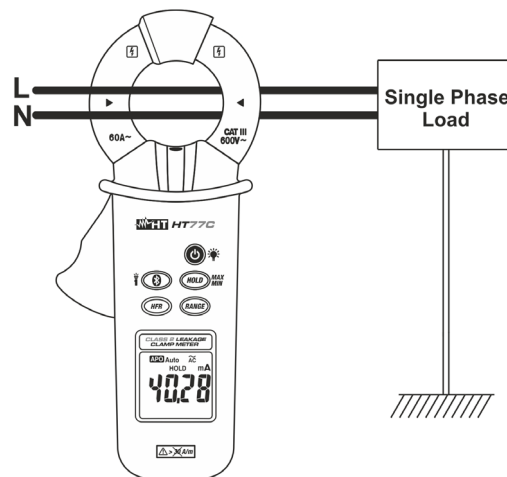
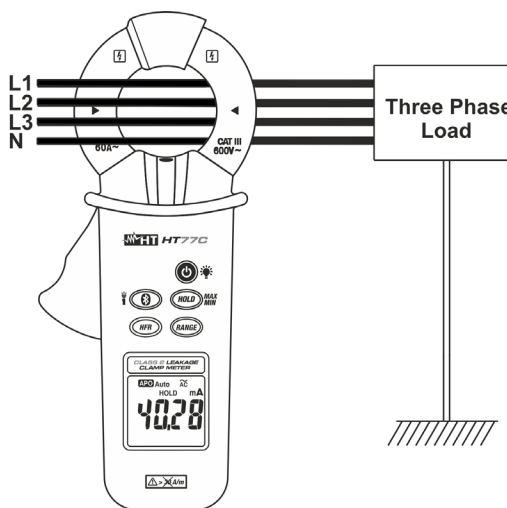

Fig. 5: Measuring leakage current with indirect method in a single phase load
Fig. 7: Measuring leakage current with indirect method in a three phase load
2. Open the clamp jaw and connect the clamp as shown in Fig. 5 or Fig. 7. The leakage current value will be shown on the display